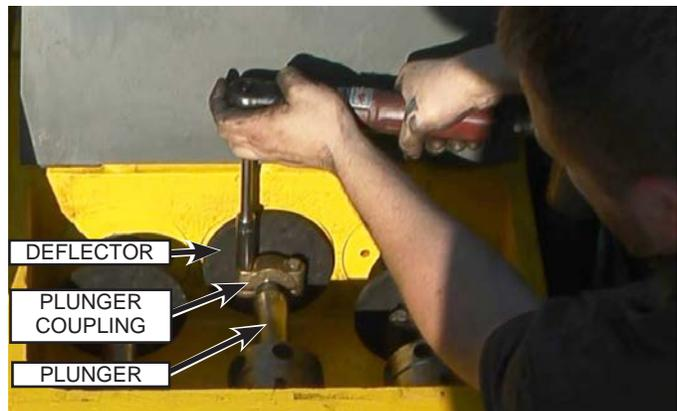

Fig. 124: Plunger Coupling Removal
- Remove the two capscrews that secure the plunger coupling (Fig. 124) to the plunger and remove the coupling. Rotate the pump until the pony rod is fully retracted.
- Slide the rubber deflector (Fig. 124) off of the pony rod.